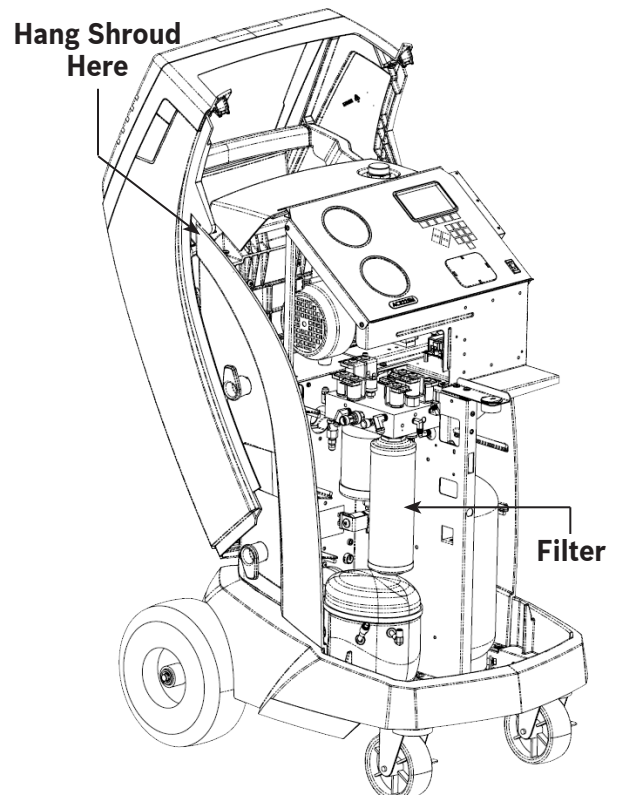

Figure 9
3. Hang the shroud on the back of the machine as shown in Figure 9.
6. Install the new filter by threading it clockwise into place. Verify the filter is positioned correctly as shown in Figure 9. Tighten the filter to 20 Nm (15 ft/lb).